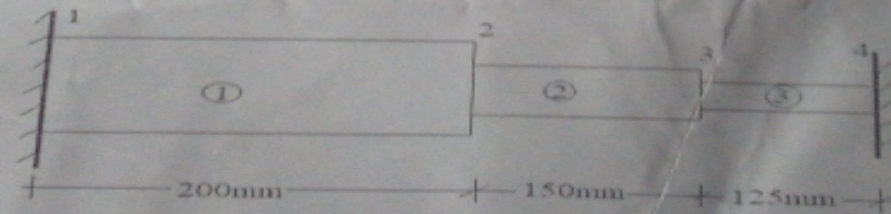

Figure Q5(b)
- (b) The bars shown in Figure Q5(b) is subjected to  $F_3 = 15\text{kN}$  and  $A_1=100\text{mm}^2$ ,  $A_2=75\text{mm}^2$ ,  $A_3=50\text{mm}^2$  and  $E=200\text{GPa}$ . Determine the nodal displacements, the reactions, and the forces transmitted through each element. (12 Marks)